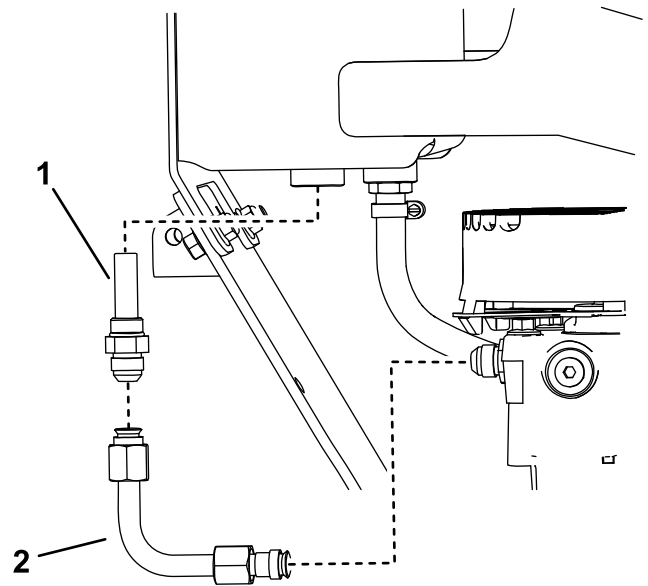

Figure 12
6. Remove the tube and screen fitting from the tank and pump (Figure 12). Discard the screen fitting.
7. Install the new screen fitting to the tank (Figure 12). Torque the fitting to 79 to 98 N·m (58 to 72 ft-lb)
8. Install the tube to the screen fitting and pump (Figure 12).